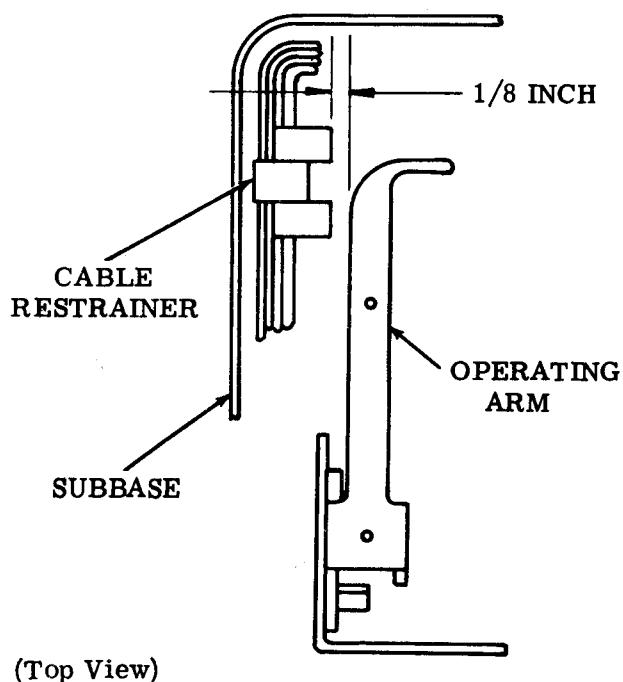

Figure 9 - Operating Arm Clearance
- (b) Operating Arm Clearance (Figure 9): Remove cover. The operating arm should have a minimum of 1/8 inch clearance